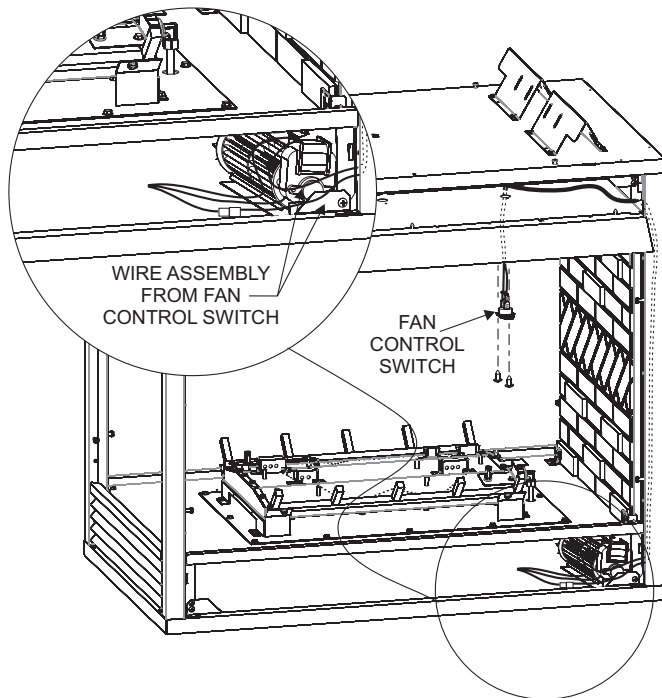

Figure 26
6. Next, find the fan control switch and wire assembly. Feed the wires through the hole at the top of the firebox, and secure the fan control switch with two (2) #6 screws (provided). The fan control wires will slide down between the firebox and outer wrap near the blower assembly. **See Figure 26.**